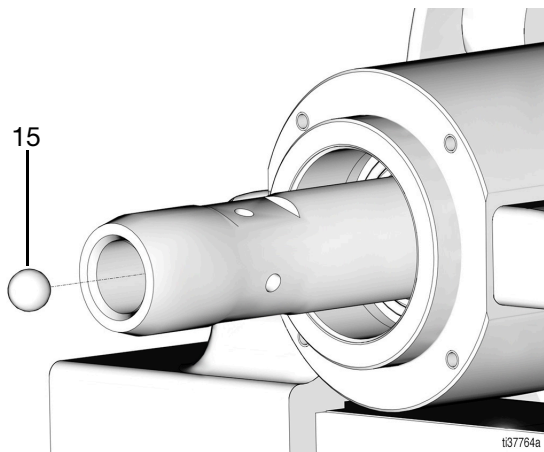

FIG. 24
- Replace the check ball (15) between the displacement rod (14) and the fluid piston (9) (FIG. 24).